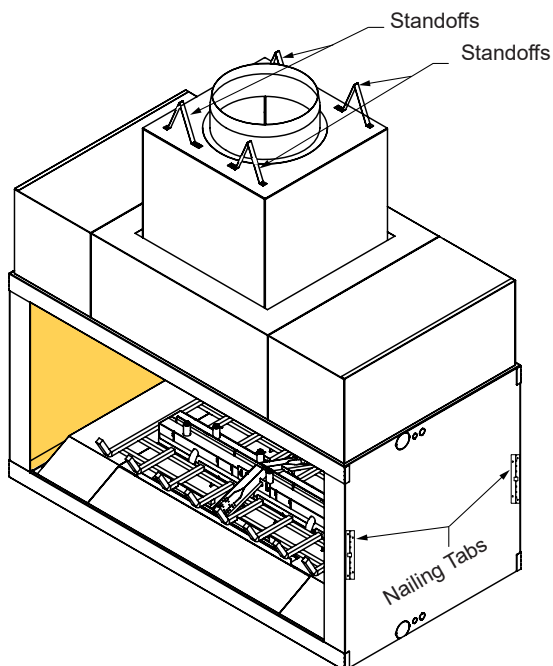

Figure 4A.3
STEP 1: Refer to Figure 4A.1
STEP 2: Refer to Figure 4A.2
Fold the center of the standoff up and both ends out at the perforated lines. Using Figure 4A.2 for reference, locate the second pre-installed screw on the firebox top at each standoff location. Remove the screw, pivot the folded standoff into location and re-install the screw to secure the standoff. Tighten up the screw that was loosened in Step 1.
Bend the two (2) small tabs out on each nailing tabs at the perforated lines. Using Figure 4A.3 for reference, locate the pre-drilled holes on the firebox side each nailing tabs will be placed at.